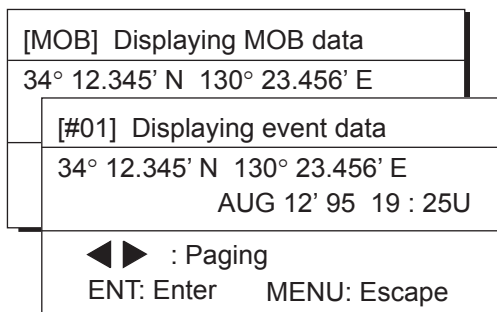

Figure 4-8
- 2) Press **2** to select MOB/Event Position. The display shown in Figure 4-8 appears.